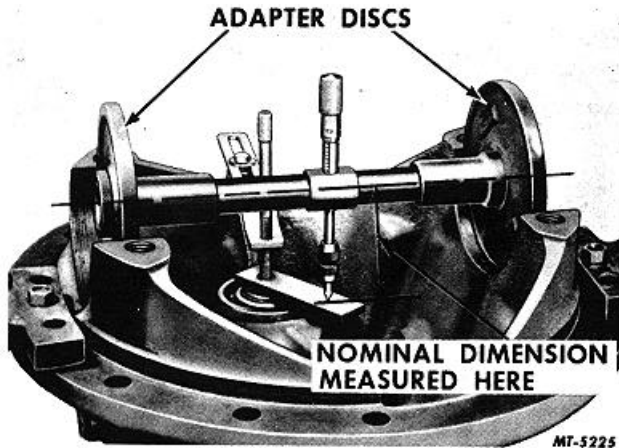

Fig. 28 Assembled Gauge in Position
4. Mount assembled SE-1065 gauge in bearing bores of carrier as shown in Fig. 28. Make certain that bearing bores are clean and free of nicks and burrs. Adjust micrometer so it is directly over end at a 90 degree angle to the step plate. Take micrometer reading. Run the micrometer thimble down to measure the distance between the center of the ring gear and the step plate, or in the event of a spiral bevel type drive, measure the distance to the face of the pinion itself. Make a note of this measurement.